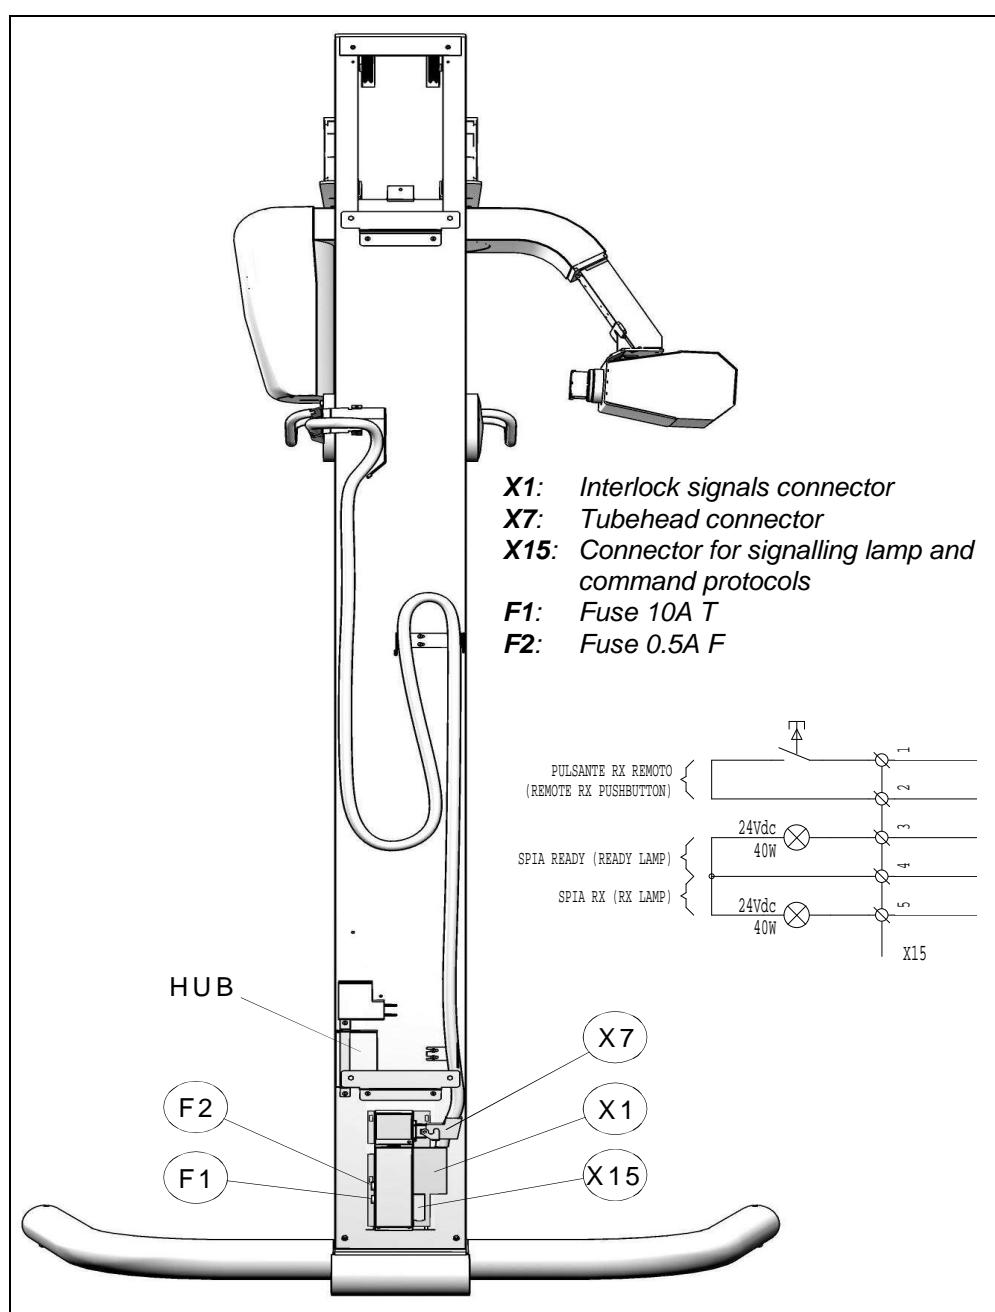

Figure 6-8
The electrical connection has to be made on the X15 terminal (refer to Figure 6-8 and the general wiring diagram at chapter 9).
16. Install the HUB (normally supplied with the accessories) in the rear part of the column as shown in Figure 6-8, tightening it with the dedicated bracket (code 5608101100); fix the HUB power supply with the clamp ties.